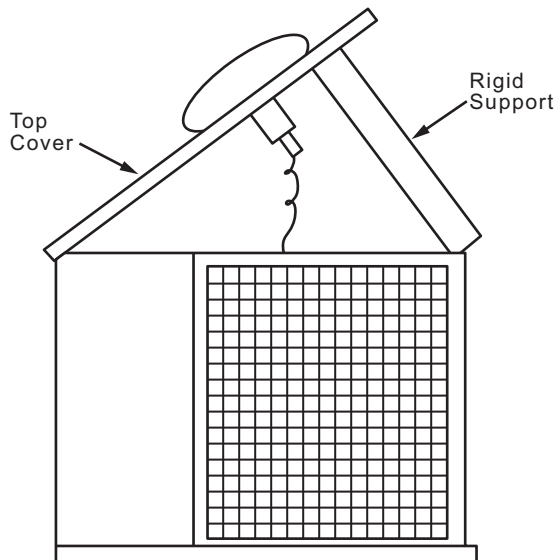

Fig. 42 — Pivot and Support Top Cover
2. Remove screws holding rear corner post and top cover in place. Pivot top cover up 12 to 18 inches (305 to 457 mm) and support with a rigid support. See Fig. 42.